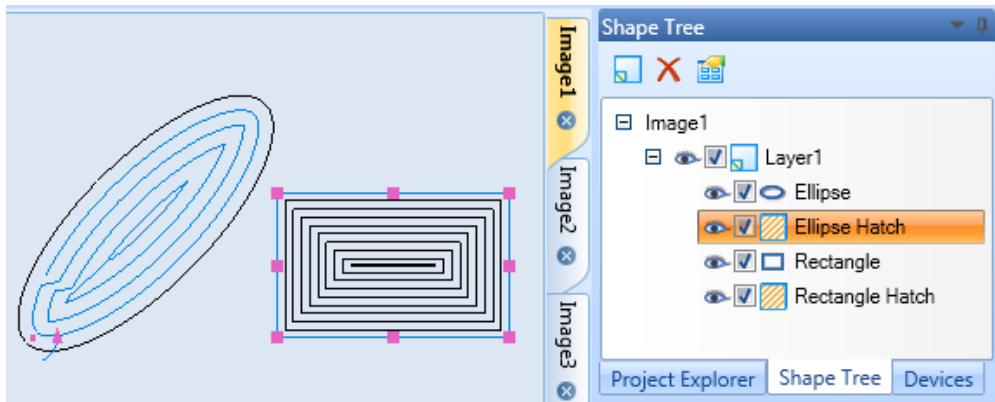

Figure 433: Selecting Shape hatching
- **On the Shape Tree:** Left-click the hatching item, which will become blue-highlighted on the Drawing Canvas as shown in Figure 433 (below).
- You must be careful to left-click only the hatching, not the Shape itself. If you left-click the Shape itself, it will be selected and display hotspots—as shown on the rectangle in Figure 433 (below)—but the Shape hatching will not be selected. To ensure that you select the Shape's hatching, left-click as near the Shape's center as possible; avoid clicking on the outline of the Shape.